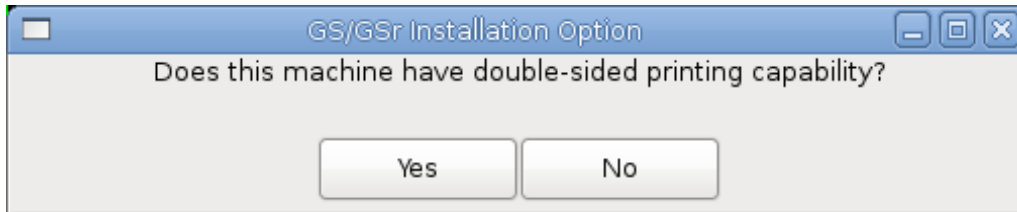

Figure 37: Double Sided Printing Dialog Box
- d. Does this machine have double sided printing capabilities? **If a tick sensor is installed behind platen as shown in **Figure 37**, reply YES.**
Note: Figure 37 is displayed only on GS3250r printers